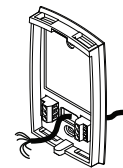

Figure 2
- 5 Pass the wires through the large opening at the bottom center of the wallplate as per Figure 2.